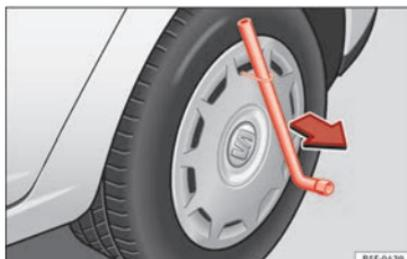

Fig. 62 Remove the wheel cover.
- Remove the wheel cover using the wire hook » » Fig. 62.